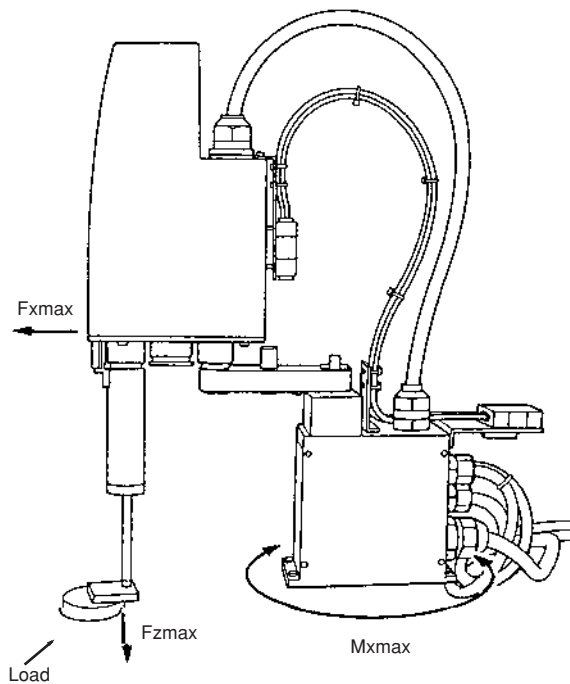

Fig. 3.1 Maximum reaction force applied during operation
- 1) Prepare a sufficiently rigid and stable installation base, taking account of the robot weight including the end effector (gripper), workpiece and reaction force while the robot is operating. The maximum reaction force (see Fig. 3-1) applied to the X-axis and Z-axis of each robot during operation is shown in the table below. These values are an instantaneous force applied to the robot during operation and do not indicate the maximum load capacity.